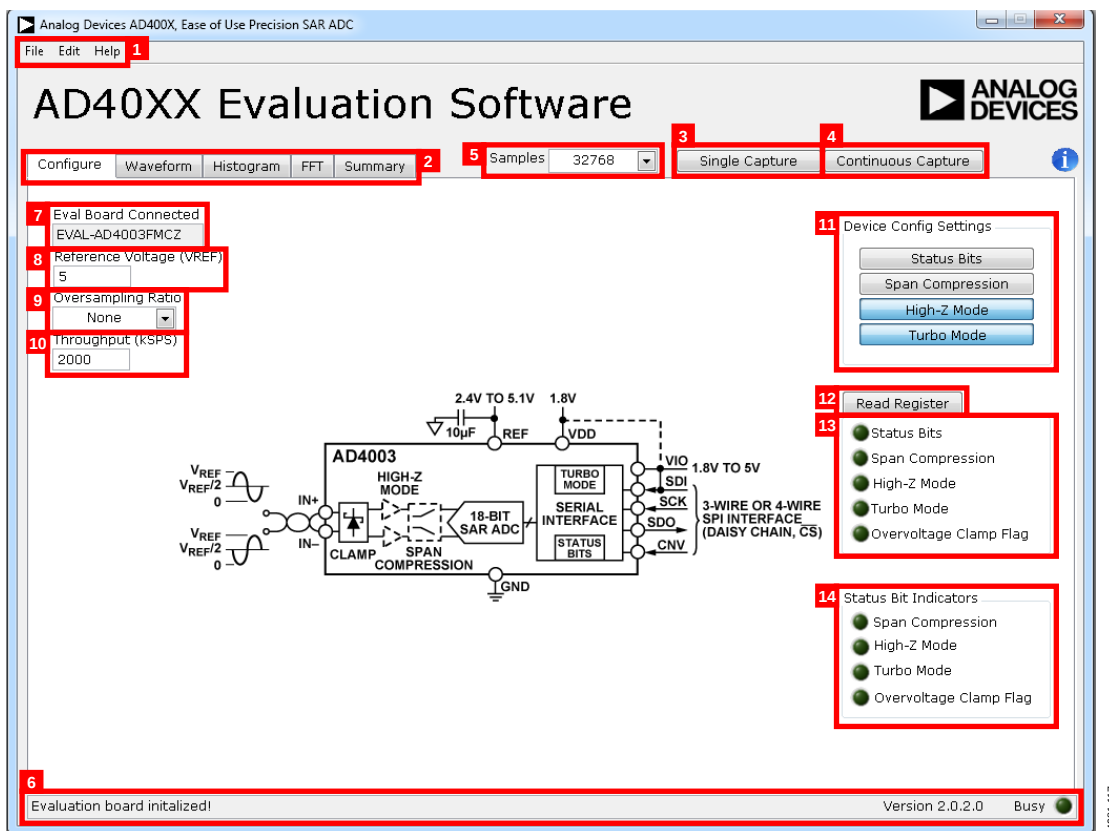

Figure 17. AD40XX Evaluation Software Front Panel (Configure Tab View)
After the AD40XX Evaluation Software Installer initializes, the software front panel appears, and the software automatically connects to any **EVAL-AD400x-FMCZ** evaluation board connected to the PC. The detected evaluation board is displayed in the **Eval Board Connected** indicator on the front panel (see Label 7 in Figure 17).
The AD40XX Evaluation Software Installer front panel is shown in Figure 17. The following sections describe the various software controls accessible on the front panel.
The **File** menu (Label 1 in Figure 17) provides the following options:
The **Edit** (Label 1 in Figure 17) menu provides the following option:
The **Help** menu (Label 1 in Figure 17) provides the following options:
The following five tabs are located at the top of the front panel (Label 2 in Figure 17): **Configure**, **Waveform**, **Histogram**, **FFT**, and **Summary**. These tabs select various front panel views.
Click **Single Capture** (Label 3 in Figure 17) to perform a single set of conversions. The number of conversions performed is set with the **Samples** dropdown list, which is located to the left of the **Single Capture** control.
Click **Continuous Capture** (Label 4 in Figure 17) to perform repeated sets of conversions. The number of conversions performed per set is set with the **Samples** dropdown list.
The **Samples** dropdown list (Label 5 in Figure 17) sets the number of conversions that are performed when **Single Capture** is clicked. The button also sets the number of conversions per set when **Continuous Capture** is clicked.
The status bar (Label 6 in Figure 17) displays information about the current process being completed by the **AD40XX Evaluation Software Installer**. The **Status Bar** includes a **Busy** indicator, which displays if the software is busy performing a task such as performing conversions, analyzing results, and so on.
Figure 17 shows the **Configure** tab view. The **Configure** tab provides controls for configuring the connected **AD4000** family device and software settings. The **Configure** tab view contains the following controls and indicators:
- **Eval Board Connected** (Label 7 in Figure 17): indicates that the **Eval-AD400x-FMCZ** board is connected to the software.
- **Reference Voltage (VREF)** (Label 8 in Figure 17): sets the VREF used in data analysis such as when calculating **LSB Size** (see Label 2 in Figure 19), or measured voltage in the waveform graph (see the **Waveform Tab View** section. This control must be set to match the VREF used on the connected **AD4000** family evaluation board.
- **Oversampling Ratio** (Label 9 in Figure 17): sets the oversampling ratio applied to the captured data. After this control is set to any value other than **None**, the software sums up the consecutive conversion results together to increase effective resolution. The number of conversions summed together is set by the **Oversampling Ratio** control.
- **Throughput (kSPS)** (Label 10 in Figure 17): sets the throughput of the connected **AD4000** family device. The maximum value of this control is automatically set to reflect the maximum achievable throughput of the connected device, given the state of the **Status Bits** and **Turbo Mode** controls. See the relevant **AD4000** family device data sheet for more information on maximum achievable throughput.
- **Device Config Settings** (Label 11 in Figure 17): configures the connected **AD4000** family device user configuration register settings. See the relevant **AD4000** family device data sheet for a detailed description of the user configuration register and the device features.
- **Read Register** (Label 12 in Figure 17): reads the **AD4000** family device user register. When **Read Register** is clicked, the contents of the connected **AD4000** family device register are read to update the **Device Config Settings** items accordingly.
- **Device configuration settings display** (Label 13 in Figure 17): displays the status of the user register when **Read Register** is clicked. Each of the following indicators displays the state of the corresponding settings:
- **Status Bits Indicators** (Label 14 in Figure 17): displays the configuration settings of the device as indicated by the status bits. The status bits are enabled with the **Status Bits** control in the **Device Config Settings** pane (Label 11 in Figure 17). The **Status Bits Indicators** are only updated after conversions are performed with the **Single Capture** or **Continuous Capture** controls when the status bits are enabled on the connected **AD4000** family device. The
- **Bin Width**: displays the size of the frequency bins in the FFT graph x-axis. The bin width is a function of both the **Throughput (kSPS)** control (Label 10 in Figure 17) and the number of samples in the captured data.